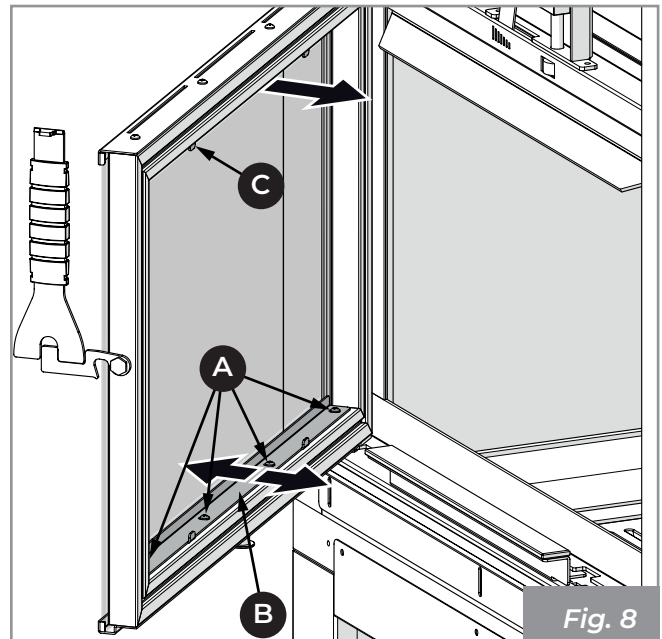

Fig. 8
The Ecomonoblocco Palazzetti are equipped with two slats (E and F) (Fig. 8) that are used to adjust the air flow for cleaning of the glass.
- 2) Loosen the screws (A) and adjust the lower glass cleaning air (B). Proceed in the same way for the upper glass cleaning air (C) (Fig. 8).